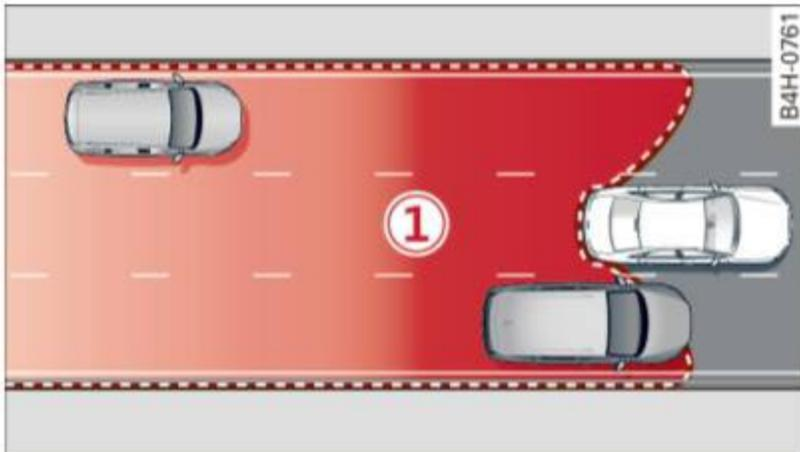
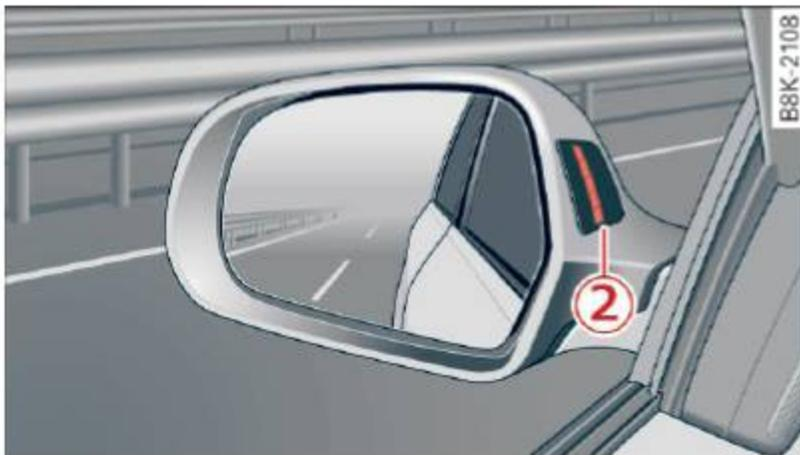

Fig. 121 Sensor detection range
Fig. 122 Display on the exterior mirror
Side assist helps you monitor your blind spot and traffic behind your vehicle. Within the limits of the system, it warns you about vehicles that are coming closer or that are traveling with you within sensor range ① ⇒ *fig. 121*: if a lane change is classified as critical, the display ② in the exterior mirror ⇒ *fig. 122* turns on.